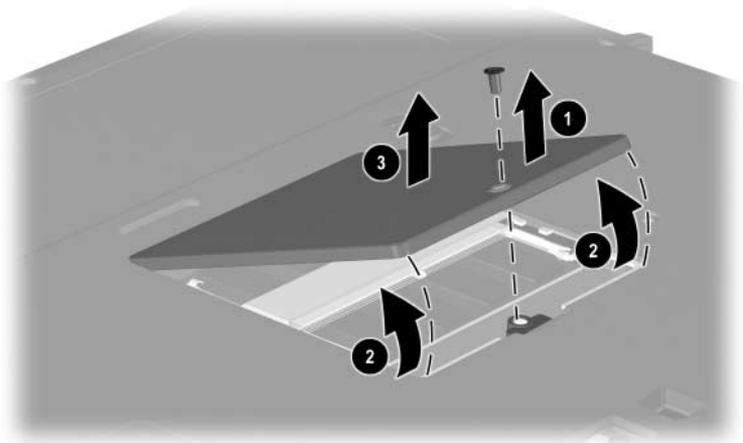

Figure 5-8. Removing the Memory Expansion Compartment Cover
3. Remove the PM2.0 × 5.0 screw ❶ that secures the memory expansion compartment cover to the base enclosure (Figure 5-8).
4. Lift the front edge of the cover and swing it back ❷.
5. Remove the cover ❸.